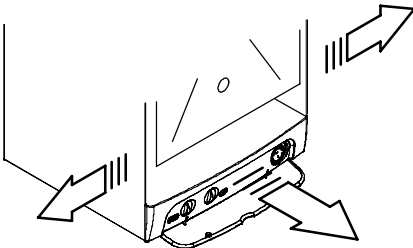

Fig. 6.15
- 4 Remove the side panels or move the lower part of the side panels as indicated in Fig. 6.15 and pull the control panel. When completely pulled out, the panel can rotate 45° downwards to facilitate the operations on the internal parts.